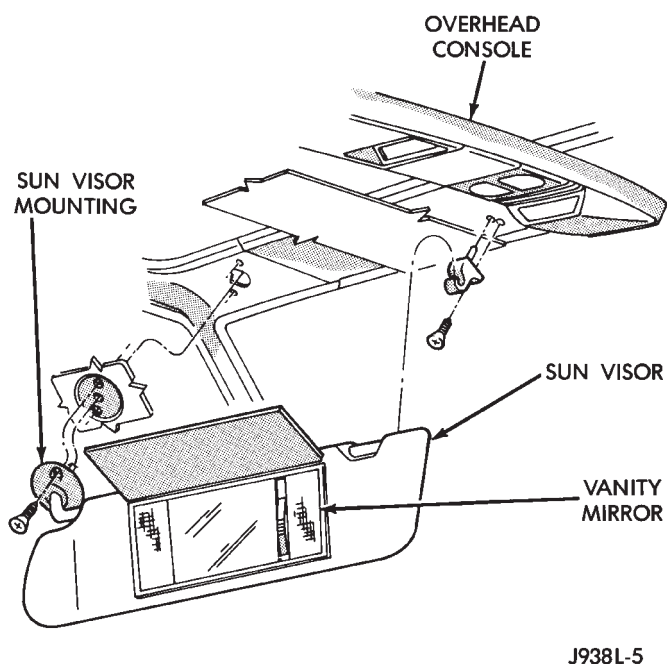

Fig. 57 Sunvisor
- (1) Remove screws that attach sunvisor arm support bracket to headliner and roof panel (Fig. 57).
- (2) Detach sunvisor from support bracket.
- (3) Remove sunvisor from vehicle.
- (4) Remove retaining screw and support bracket.